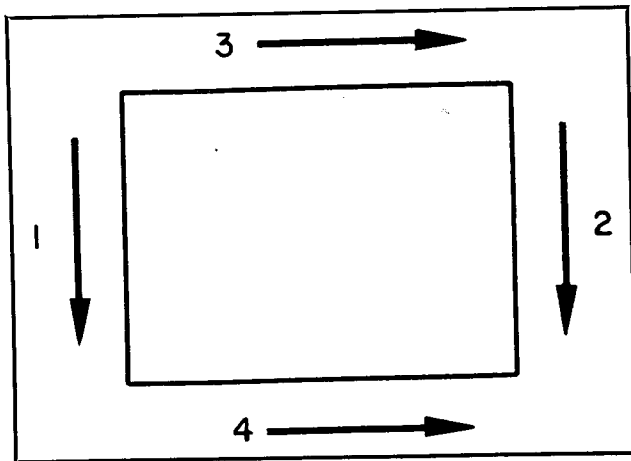

FIG. 1. Welding Sequence for Patch
2. Fit a patch of  $\frac{3}{16}$ " or  $\frac{1}{4}$ " thick steel over the area to be sealed. Tack this patch in place, then weld it to the transformer case by welding the sides first, vertically downward, then horizontally across the top of the patch and finally horizontally across the bottom. This welding sequence is recommended to prevent any liquid interfering with or contaminating the weld. (See Fig. 1.)